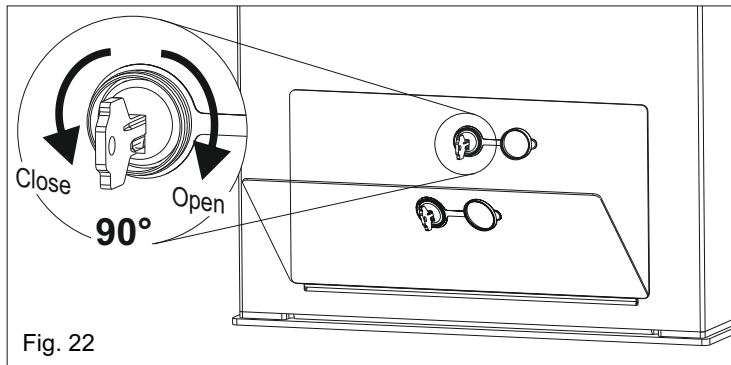

Fig. 22
- Open the lock cover, insert the key and turn it 90° clockwise (Fig. 22).
- Reposition the carter and close it by turning the key 90° anti-clockwise (Fig. 22).